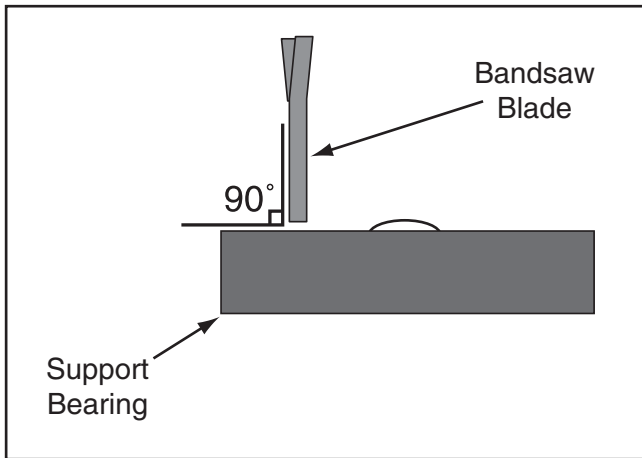

Figure 21. Blade should be perpendicular (90°) to the face of the support bearing.
- Look at the face of the support bearing and rotate the blade guide assembly side-to-side, until the blade is perpendicular with the face of the support bearing, as illustrated in **Figure 21**.